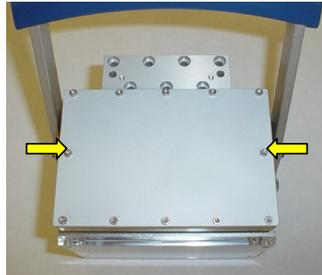

Figure 5-10: Syringe head cover and bolts to be removed
- Using a 3/32 inch Allen wrench, remove the twelve socket-head cover bolts. See Figure 5-10.